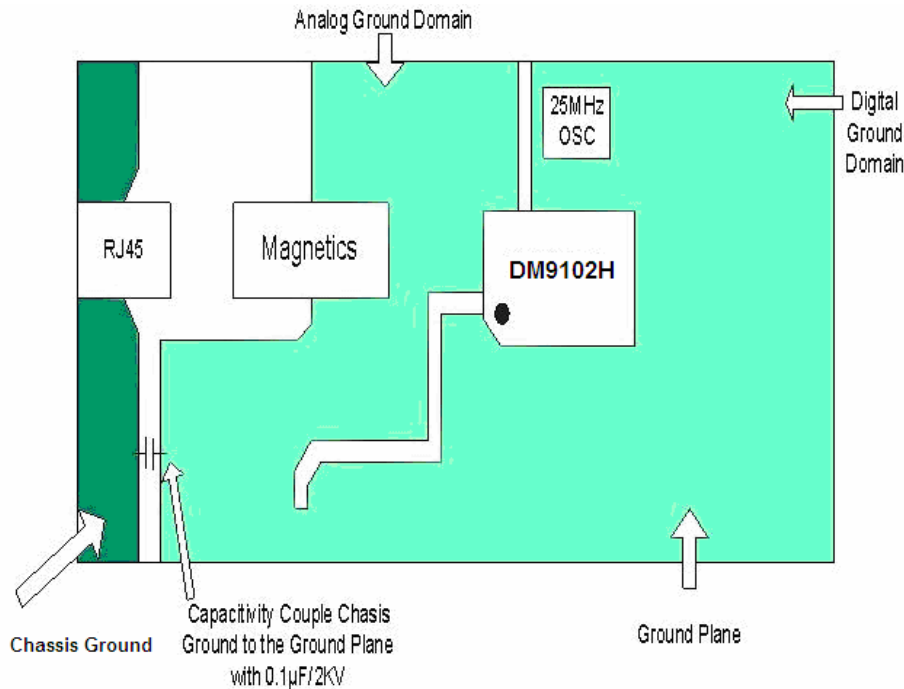

Figure 9-4-1
or ground planes in the area under the network side of the transformer to include the area under the RJ-45 connector (Refer to Figure 9-4-1 and 9-5). Keep chassis ground away from all active signals. The RJ-45 connector and any unused pins should be tied to chassis ground through a resistor divider network and a 2KV bypass capacitor.
- The ground plane must be separated into Analog ground domain and Digital ground domain. The line which connects the analog ground domain and digital ground domain should be far away from the AGND pins of DM9102H (see Figure 9-4-1).